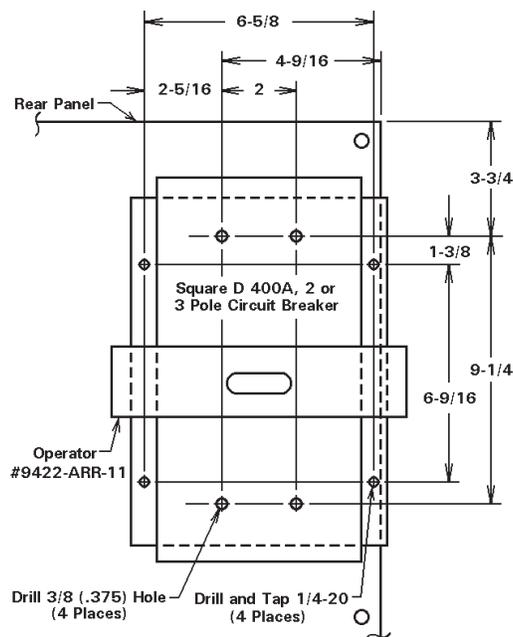

Figure 10
2. Drill and tap the Rear Panel as shown in Figure 10.